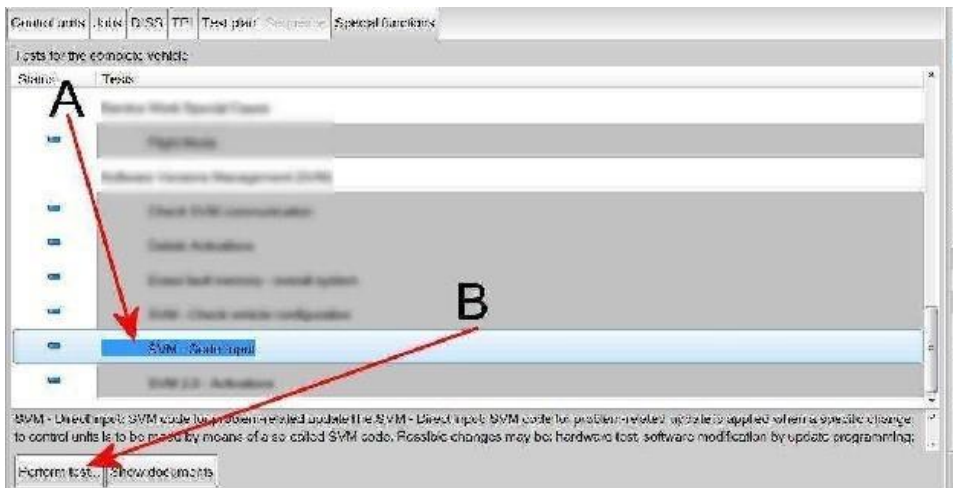

Figure 1
1) Referring to Figure 1 - Within the Special functions tab - Select SVM - Code Input (Point A)